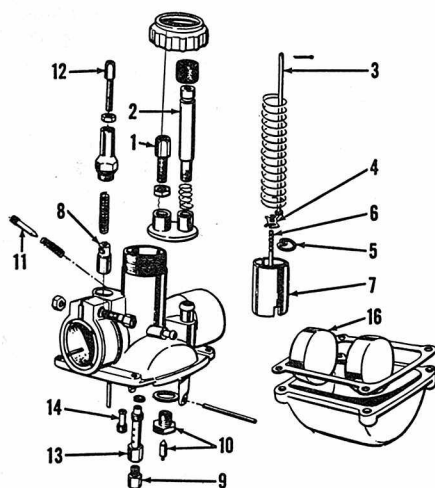
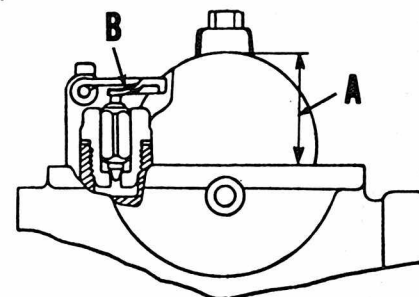

Fig. S8-1—Exploded view of Mikuni carburetor used on all models.
Fig. S8-2—Float level (A) is adjusted by bending tang (B). Level should be 25.1 MM on all models.
**CARBURETOR.** A Mikuni VM 19 SC is used on all models. Initial setting of idle air screw (11—Fig. S8-1) is 1¼ turns open on TC models and 1½ turns open on TS models. Float level should be 25.1 MM (0.98 inch) on all models and is adjusted by bending tang (B—Fig. S8-2). Refer to Fig. S8-1 and the following standard specifications: